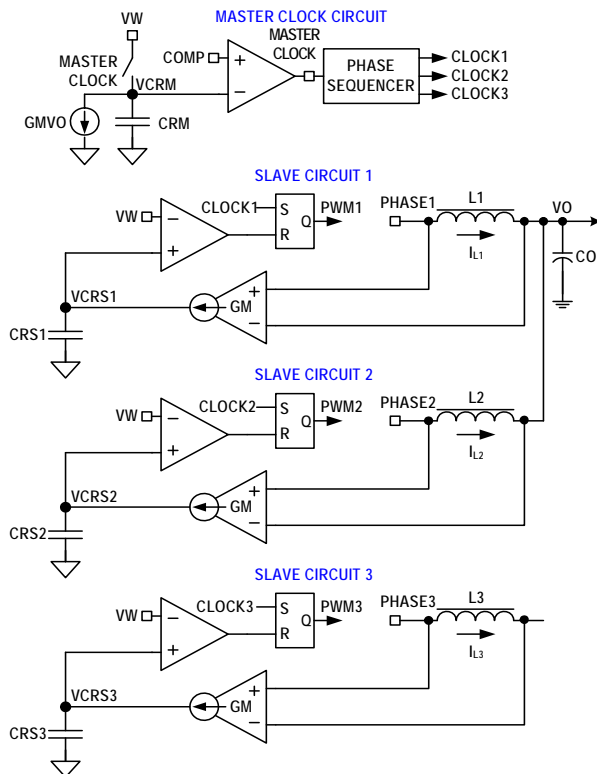
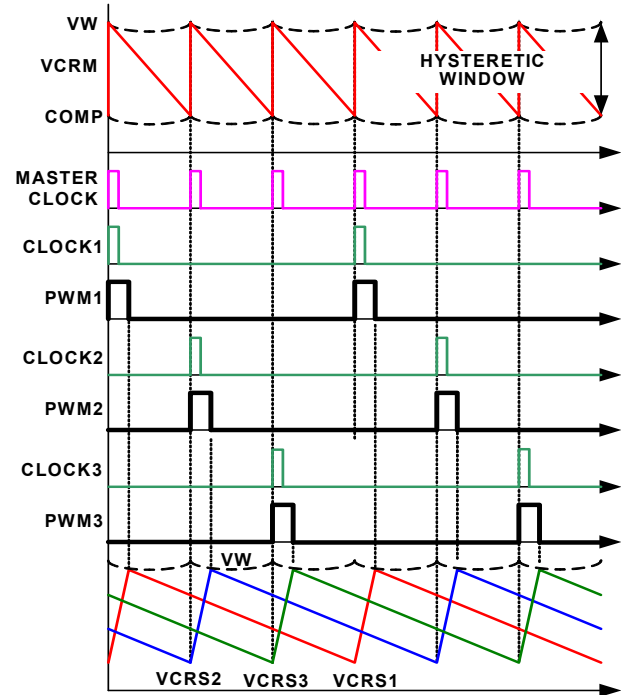

FIGURE 8. R3™ MODULATOR CIRCUIT
FIGURE 9. R3™ MODULATOR OPERATION PRINCIPLES IN STEADY STATE
The ISL62771 is a multiphase regulator implementing two voltage regulators, CORE VR and Northbridge (NB) VR, on one chip controlled by AMD's SVI2 protocol. The CORE VR can be programmed for 1- or 2-phase operation. The Northbridge VR only supports 1-phase operation. Both regulators use the Intersil patented R3™ (Robust Ripple Regulator) modulator. The R3™ modulator combines the best features of fixed frequency PWM and hysteretic PWM while eliminating many of their shortcomings. Figure 8 conceptually shows the multiphase R3™ modulator circuit and Figure 9 shows the operation principles.